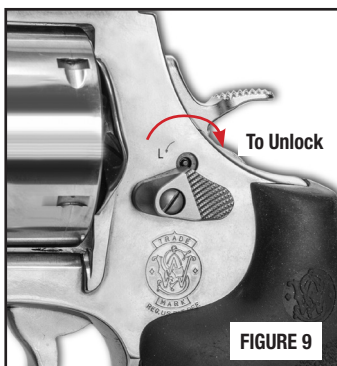

FIGURE 9
- With the cylinder open, hold the revolver in one hand. Insert the key and turn it approximately 90 degrees in a clockwise direction using the other hand until the flag returns to its hidden, unlocked position on revolvers with exposed hammers. A definite stop and detent will be felt when the key is turned to either the locked or the unlocked position (FIGURE 9).